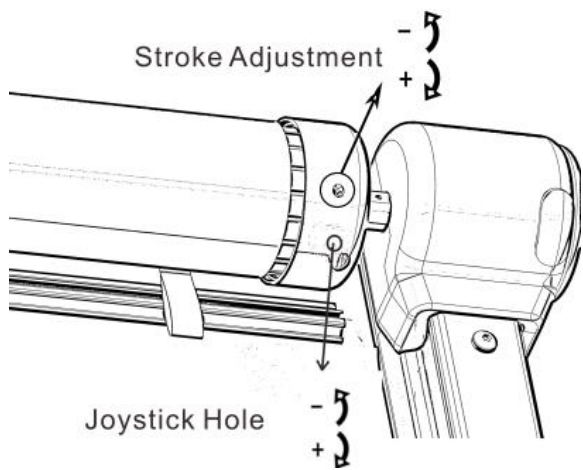

Figure C32
3.13.3 If the opening travel of the awning is too large or too small, you can use the decorative cap on the motor end cover to finely adjust adjustment hole A with an Allen wrench to increase or decrease the opening travel (Figure C32)